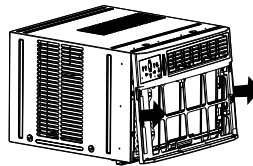

FIG. 3
4. Push metal cabinet side and pull on plastic frame to release plastic tabs on each side of front panel. (See Fig. 3.)